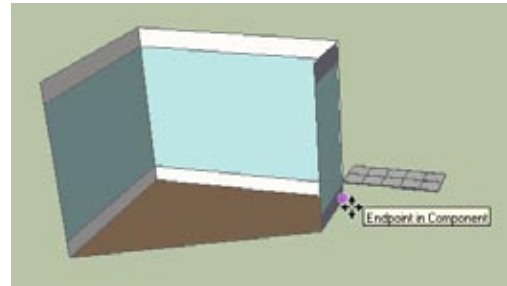

Figure 14-25
3. Import my Floating Floor component from this chapter's 3D Warehouse collection. This is a tiled floor whose tiles will self-copy when the floor is resized. The tiles are to start at the corner farthest from the origin, so the floor's reference point should be placed there. Click the bottom point of that corner (Figure 14-25). The tiles themselves are set to start 12" above the point by which they are placed (this is, after all, a floating floor). This is why the floor aligns with the top of the 12" base trim. (The floating distance is one of the options that can and will be changed.)